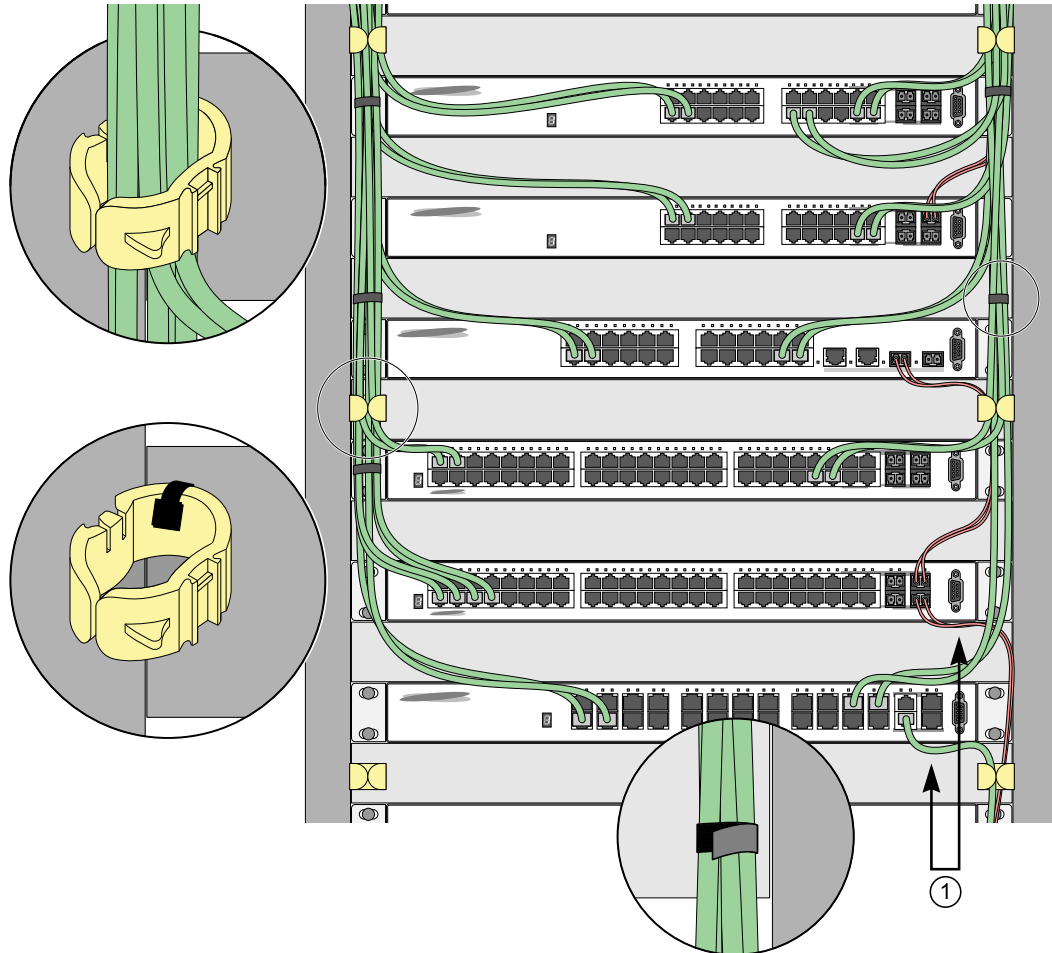

Figure 32: Properly Installed and Bundled Cable
- Provide enough slack, approximately 5 to 7.5 cm (2 to 3 in), to provide proper strain relief as shown in Figure 32 on page 49.
- When installing a patch panel using twisted pair wiring, untwist no more than 2.5 cm (1 in) of the cable to avoid radio frequency (RF) interference.